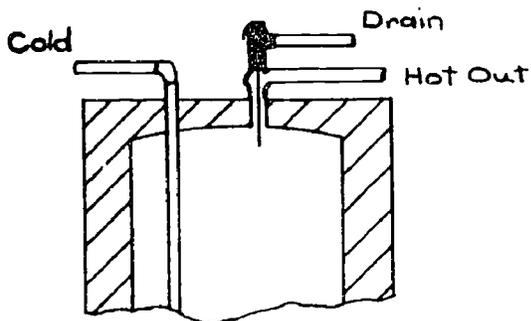

Fig. 1
Watts pressure and temperature relief valve is a typical valve that is used on most water heater applications. When installing the Watts pressure and temperature relief valve with an extension thermostat, it must be installed with the temperature sensing element immersed in the water within the top six (6) inches of the water tank as shown in Figures 1 and 2.
The valve must be installed either in the hot water outlet service line or directly in a tank tapping as shown in Figure 1. To avoid water damage, drain pipe must be run to a safe place of disposal and must pitch downward from the valve. Drain pipe must be the same size as the valve discharge connection throughout its entire length. No shutoff valve shall be installed between the relief valve and the tank in the drain line.